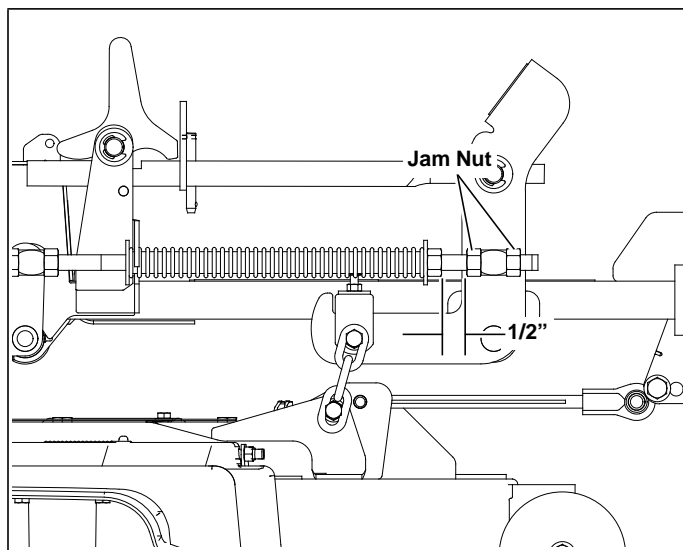

Figure 6-7
29. Compress the deck lift assist springs so that there is 1/2" of space between the front nut on the spring and the rear nut on the deck lift block. Typical both sides. Figure 6-7